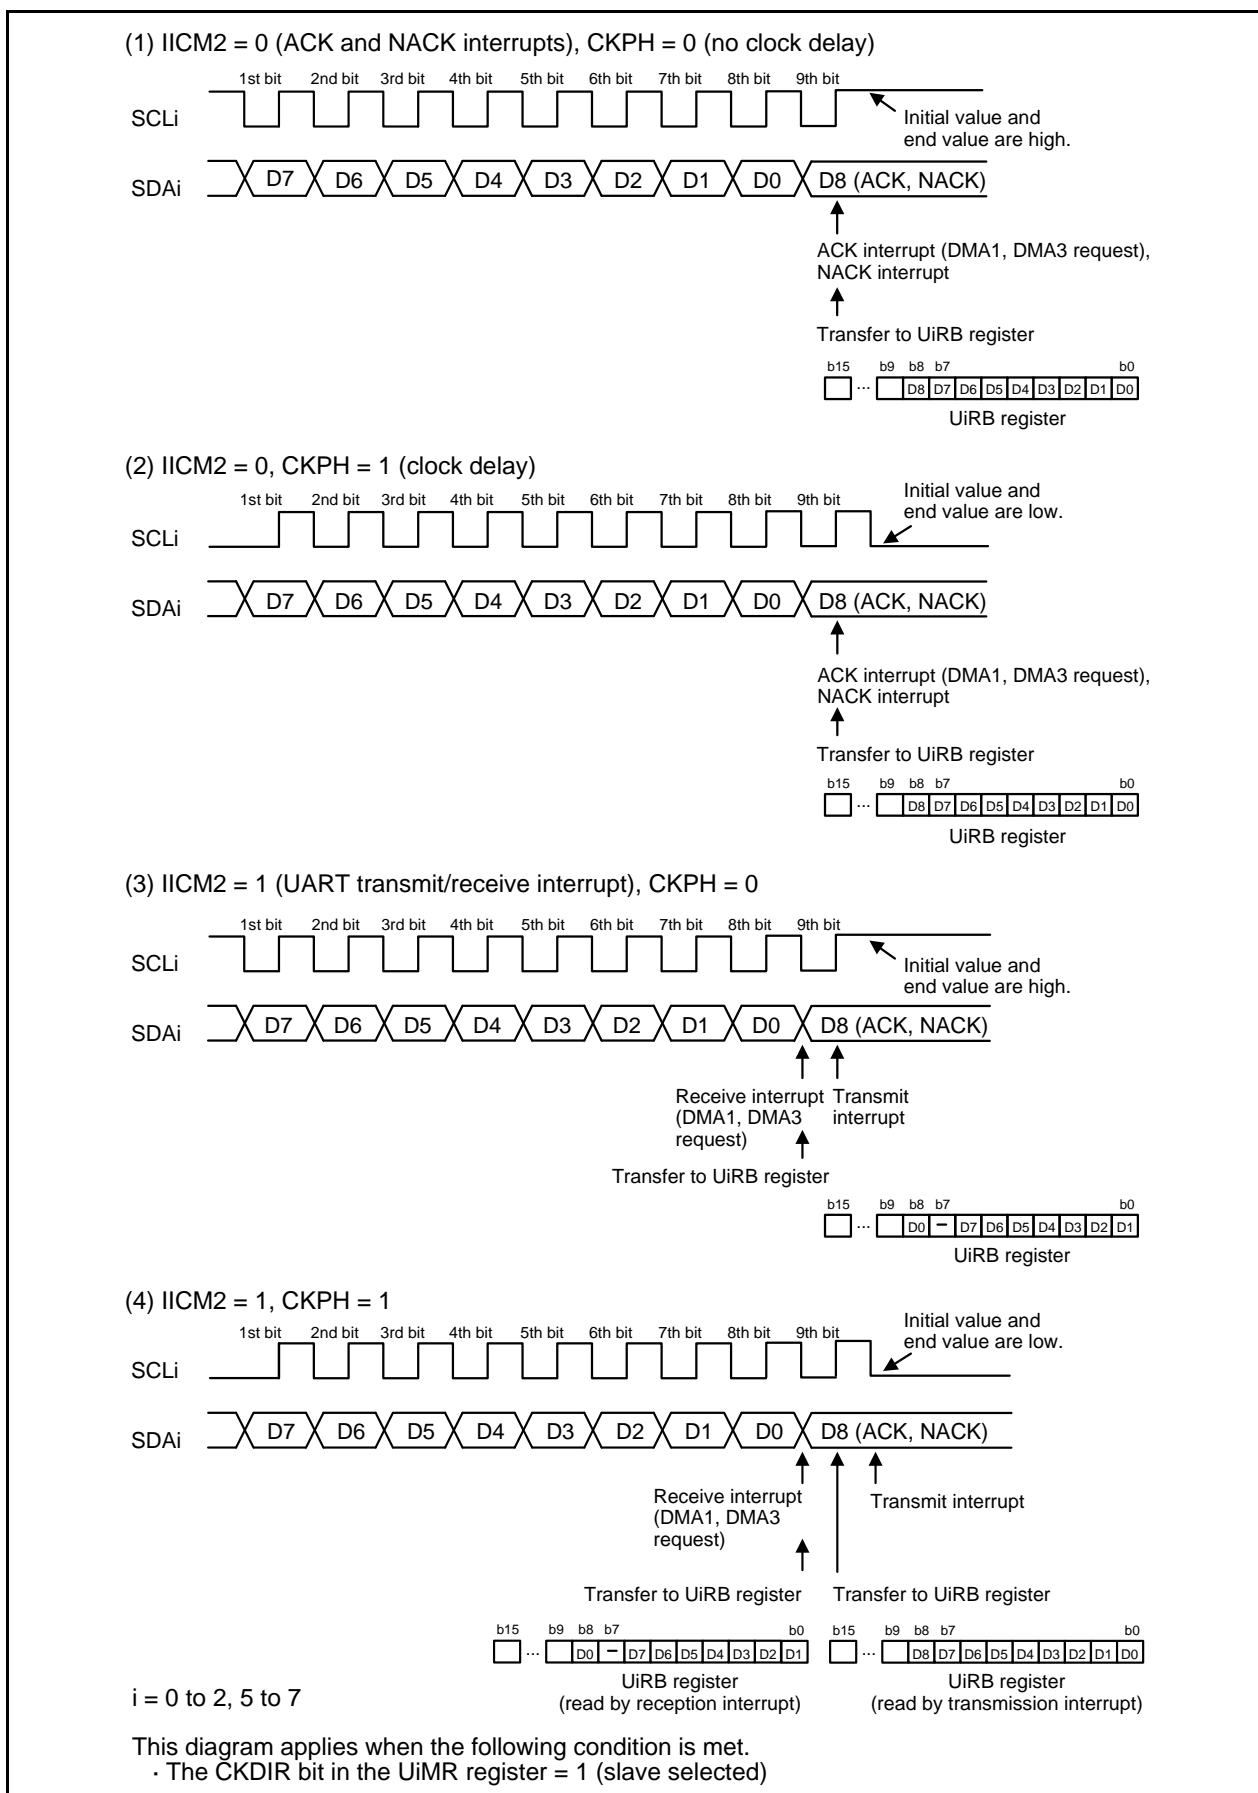

Figure 23.19 Transfer to UiRB Register and Interrupt Timing
In I²C mode, the functions and timings vary depending on the combination of the IICM2 bit in the UiSMR2 register and CKPH bit in the UiSMR3 register. Figure 23.19 shows Transfer to UiRB Register and Interrupt Timing. Refer to Figure 23.19 for the timing of transferring to the UiRB register, the bit position of the data stored in the UiRB register, types of interrupts, interrupt requests and DMA request generation timing.
2. See Figure 23.19 "Transfer to UiRB Register and Interrupt Timing".
The transmit/receive clock is used to transmit/receive data as is shown in Figure 23.19.